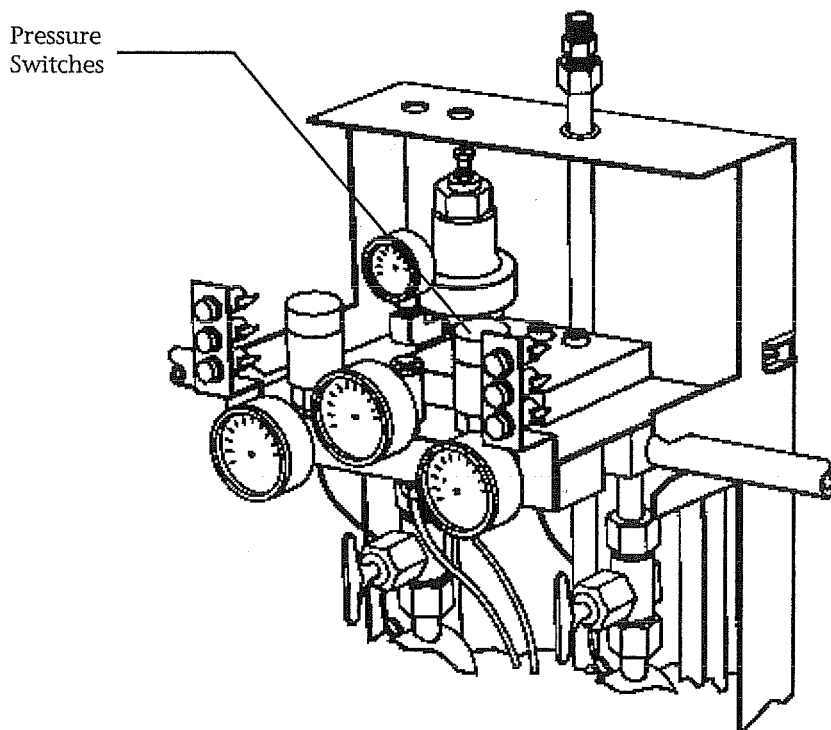

Figure 4-12
2. The switch being tested must be for the bank which is supplying gas (Figure 4-12). If the opposite bank is supplying gas, actuate the switch on top of the printed circuit board. This will cause the manifold to switch over and the bank for the switch being tested will supply the gas.